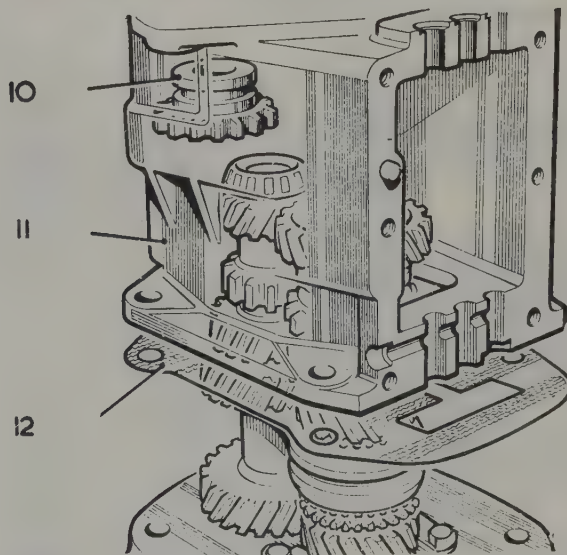

Fig. 6.12. Withdrawing gearbox main casing
- 19 Refer to Fig. 6.12 and push reverse gear to one side to clear first gear on the mainshaft and then withdraw the gearbox casing. Peel off the casing to bellhousing gasket.